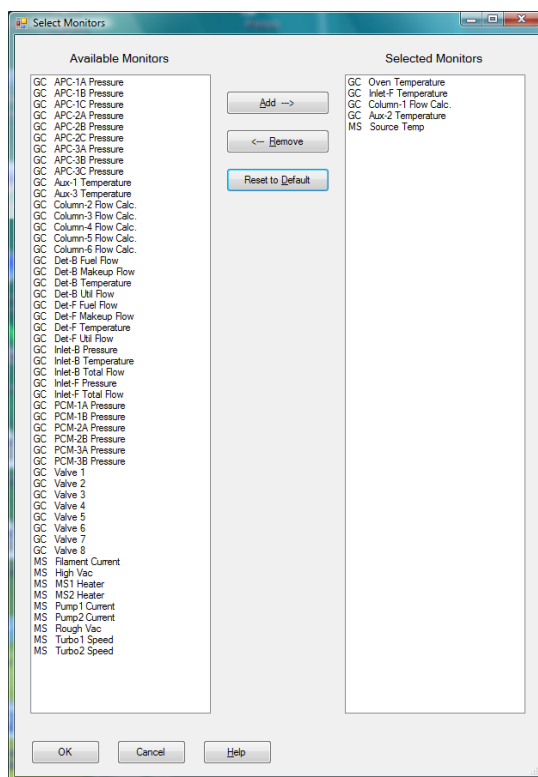

Figure 7 Select Monitors dialog box
- 1 Select **Method > Edit Monitors** to display the **Select Monitors** dialog box. See Figure 7.